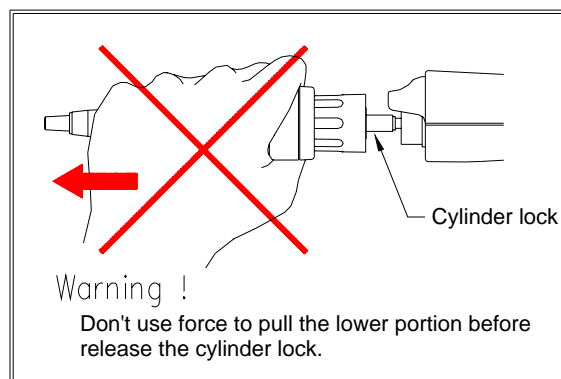
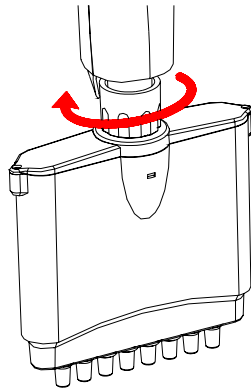

Figure 10: Incorrect removal of the lower piston assembly.
Figure 11: Loosen the connecting nut by unscrewing counter-clockwise.
Only the lower piston assembly of VWR Signature electronic pipettor can be steam-autoclaved (121°C, 1 bar, 20 minutes). NOTE: It is important not to exceed the the temperature of 121°C or 20 minute time during the autoclaving cycle. Autoclaving at a higher temperature or for longer period of time will damage the manifold and void the warranty. The autoclaved parts must be allowed to dry completely at room temperature for at least 2 hours before reassembly. Users can follow Figures 11~14 to disassemble the VWR Signature electronic pipettor. Please “DO NOT” use excessive force to pull down the lower part before releasing the cylinder lock as shown in Figure 10. This action will break the connection mechanism of the lower part, permanently damaging the instrument and will void the warranty.
2. Loosen the lower part of VWR Signature electronic pipettor by unscrewing the connecting nut in counter-clockwise direction as shown in Figure 11.